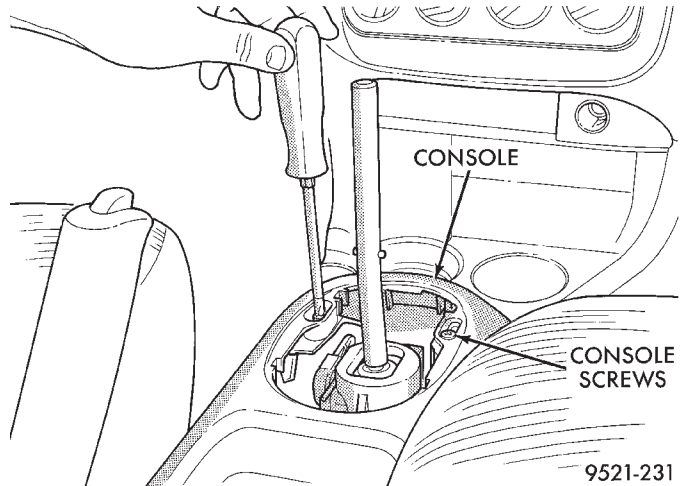

Fig. 11 Console Front Screws
- (5) Pull cables up out of transaxle bracket.
- (6) Remove gearshift knob and boot. Refer to Knob and Boot Removal in this section.
- (7) Remove console front screws (Fig. 11). Remove console rear screws (Fig. 12).